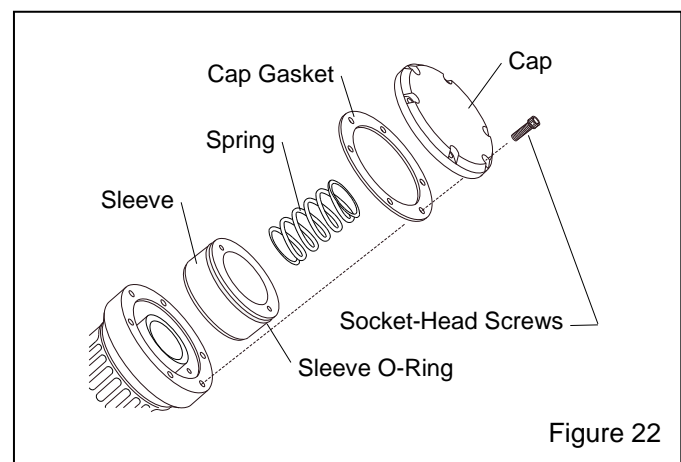

Figure 22
6.3.2.7 Refer to Figure 22 and place the O-ring on the cylinder sleeve, and insert the sleeve (O-ring end up) into the body. Make sure the open side of the upper (small) U-seal does not fold back during assembly, the sleeve is chamfered to make assembly easier.